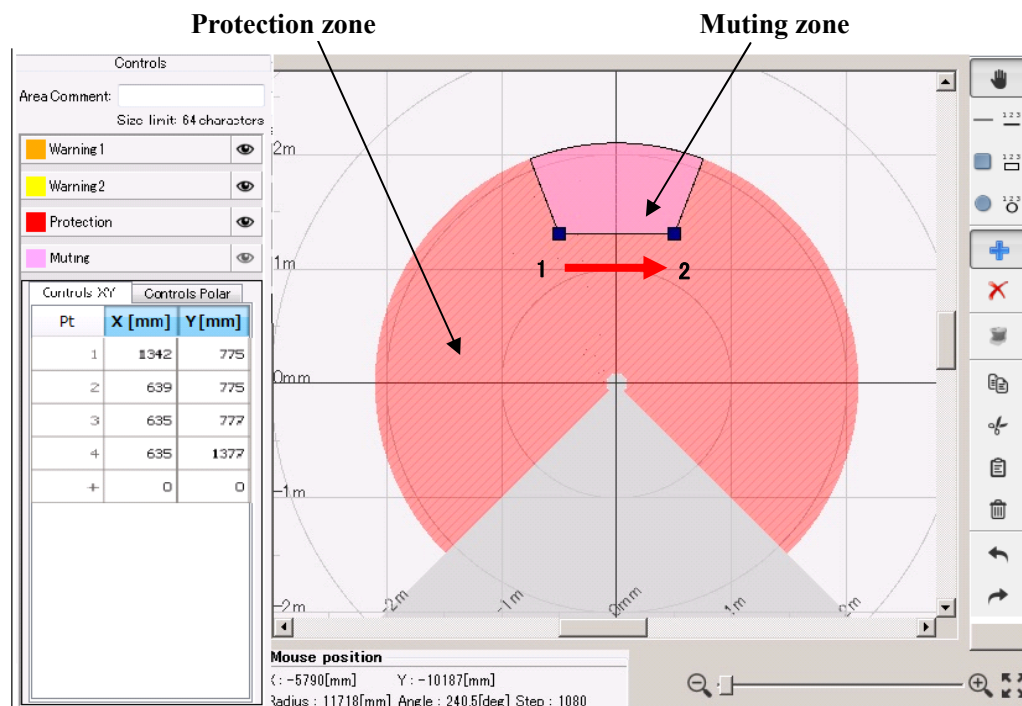

Figure 7-45 Muting zone configuration example 1
- Figure 7-45 and 7-46 shows an example of the muting zone configuration. Region in pink represents the muting zone.